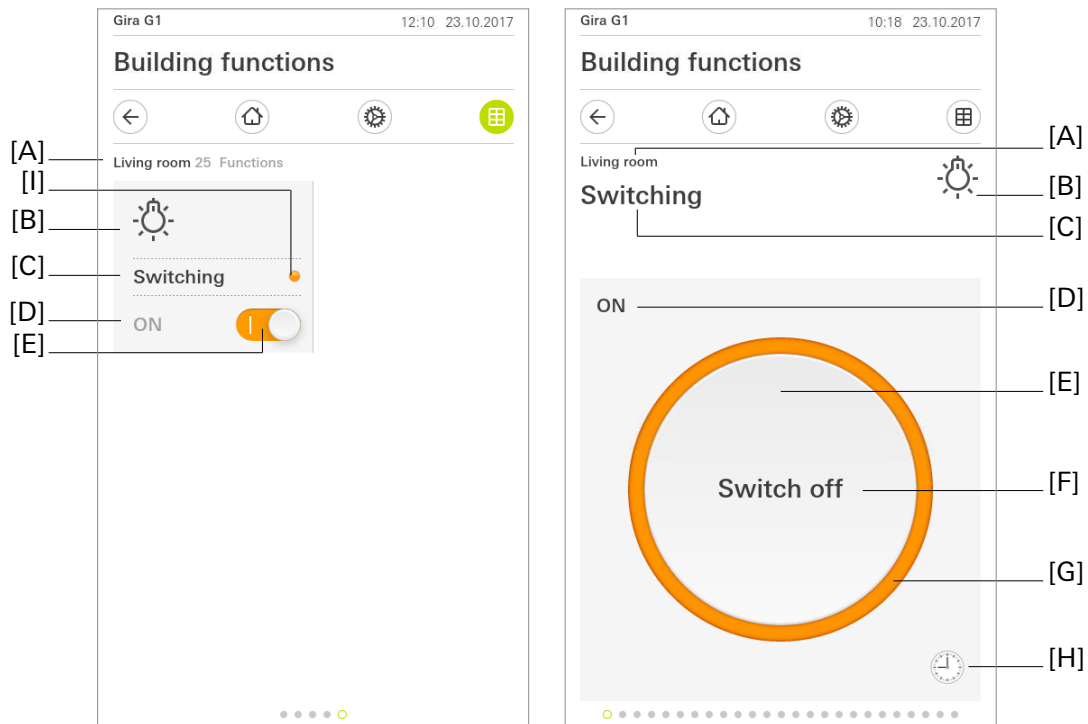
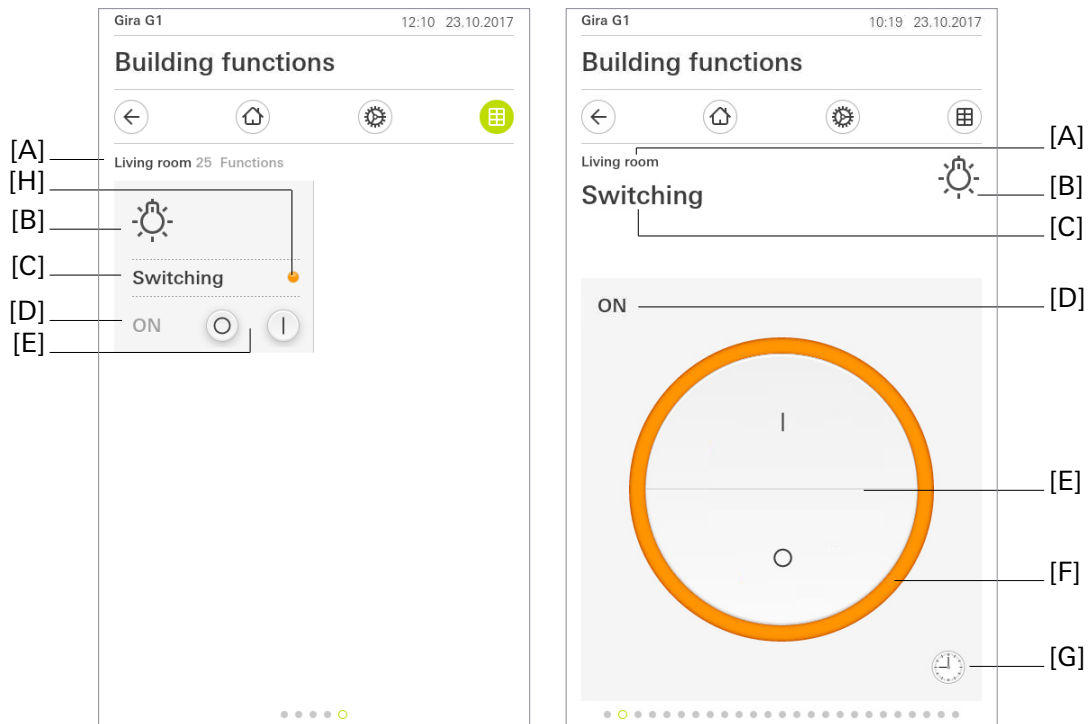

Fig 1: Example of operating and display element of the "Switching" function (button function).
Fig 2: Example of operating and display element of the "Switching" function (rocker function).
- i** The "Switching" channel function can be executed as a button or rocker function, depending on the ETS parameterisation. The graphic (Fig. 1) shows an example of the button function. The graphic (Fig. 2) shows the rocker configuration.